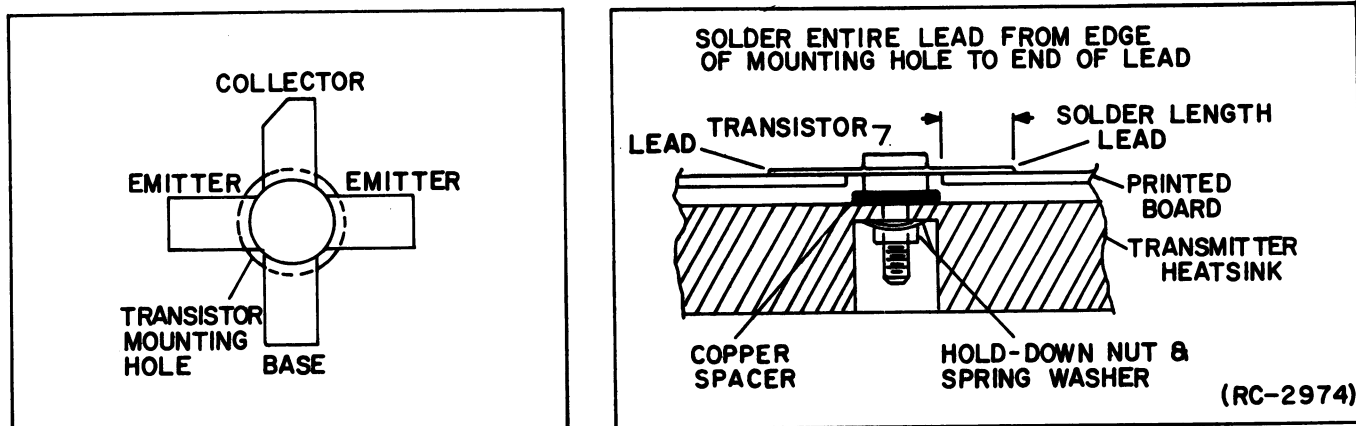
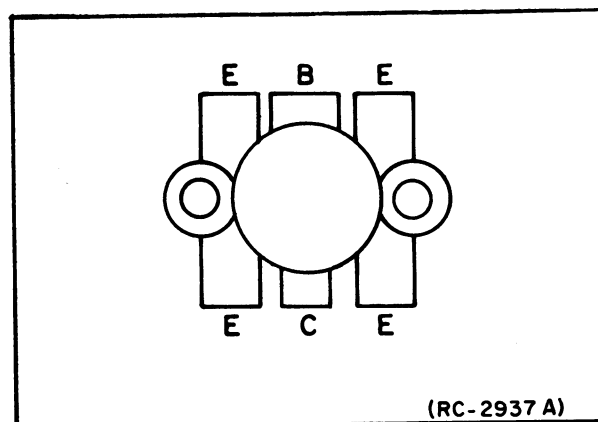

Figure 5 - Q202 Lead Identification and Mounting
Figure 6 - Q203, Q4205 and Q4206 LEAD IDENTIFICATION
1. Trim the new transistor leads (if required) to the lead length of the removed transistor. Cut the collector lead of Q202 at a 45° angle for future identification (See Figure 5). The collector lead of Q203, Q4205 and Q4206 is identified by the smaller center lead (See Figure 6). The letter "C" on top of each transistor also identifies the collector.
- 2. Maintain the radio at 26.5°C (±10°C) and offset the oscillator, as a function of actual temperature, by the amount shown in Figure 5.